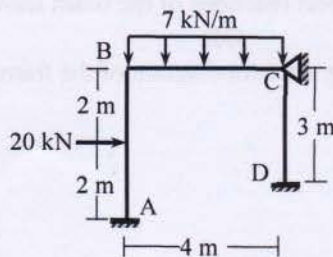

Fig.10
9. Use Moment Distribution Method to draw bending moment diagram of the frame shown in **Fig.10**